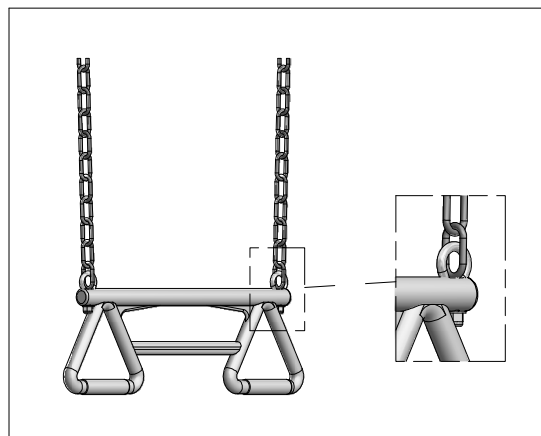

FIG. 3
ATTACH TN TRAPEZE TO (2) FW CHAINS USING (2) EYE BOLTS, (4) FLAT WASHERS AND (2) 5/16" LOCK NUTS, AS SHOWN. (FIG. 3)